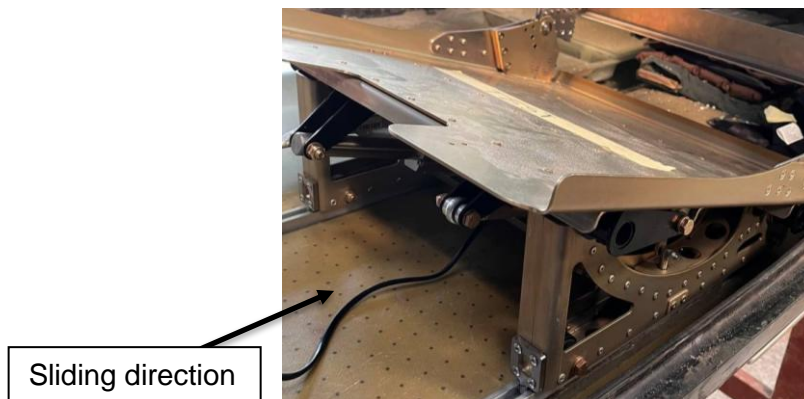

Figure 4: Seat removal.
- Step 2: Slide the seats rearwards to remove them from the rails, as illustrated in Figure 4.